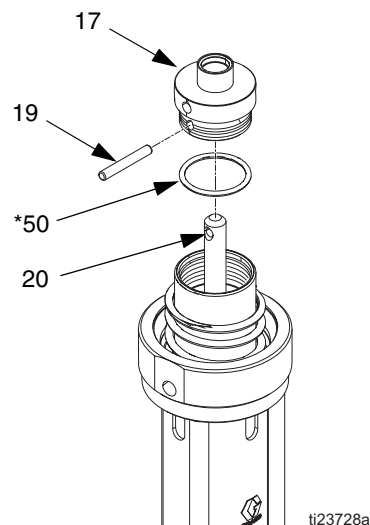

FIG. 15
6. *Series B air motors only:* Remove dowel pin (19) and take piston cap (17) off transfer shaft (20). Remove o-ring (50*) from piston cap. Inspect all parts for damage. See FIG. 15.